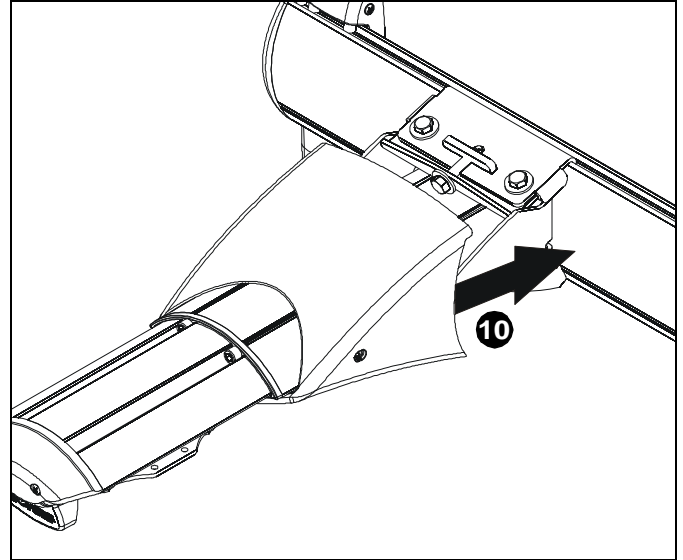

Figure 28
10. Slide outer cover of mount (A) back against mounting bracket. (See Figure 28)